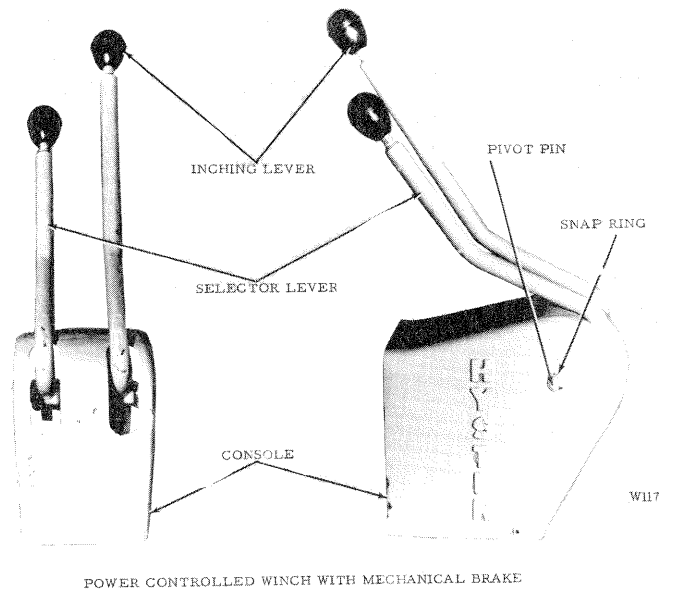

Figure 2
b. Power controlled winch with mechanical brake. Fig. 2.
A. General. Figs. 2 and 3